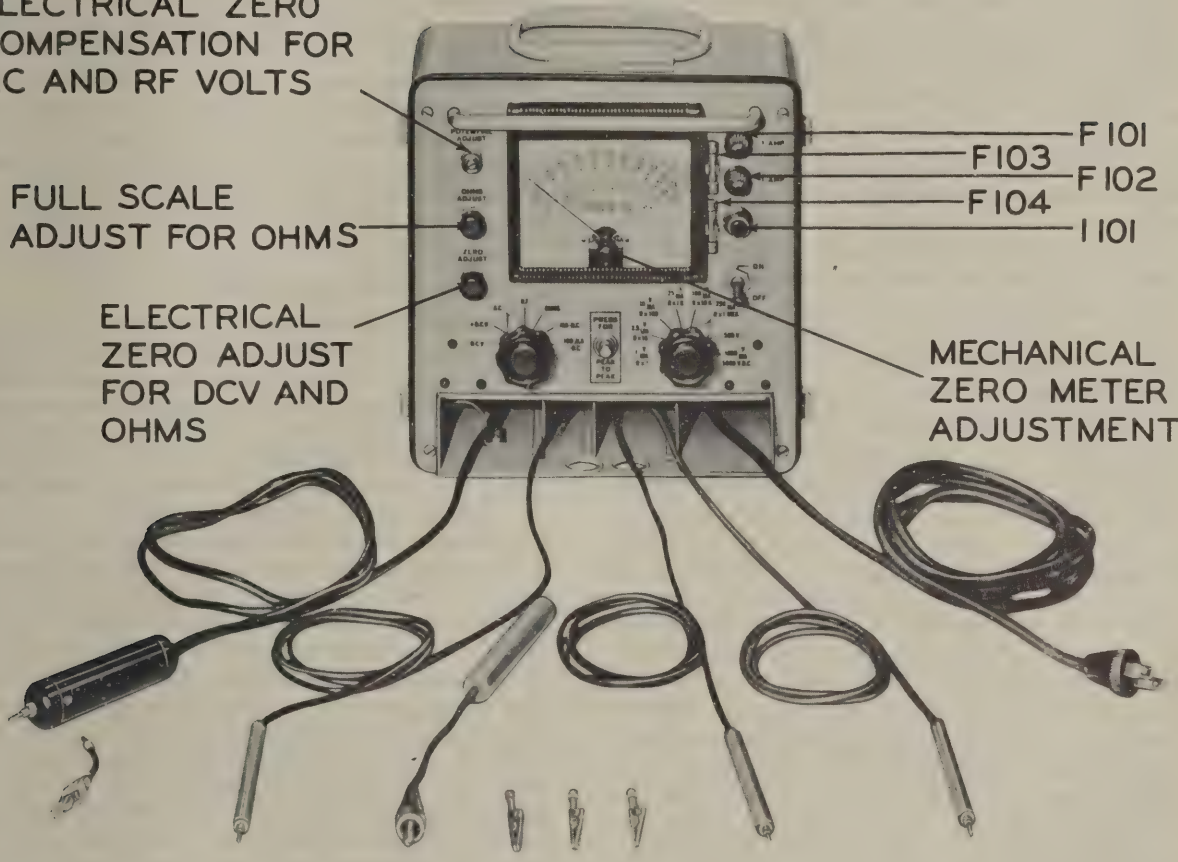

Figure 5-1. Multimeter ME-25B/U, Front Panel.
- a. MECHANICAL.—Set function switch S-101 at MA-D.C., or at 100 μ A-D.C. Observe the indication on meter M-101 with no signal connected to test leads W-102 and W-103. If it does not indicate zero, use a small screwdriver to turn the zero setting adjuster at the center of the base of meter M-101 (see figure 5-1) until the pointer does rest over zero at the left hand side of the dial.